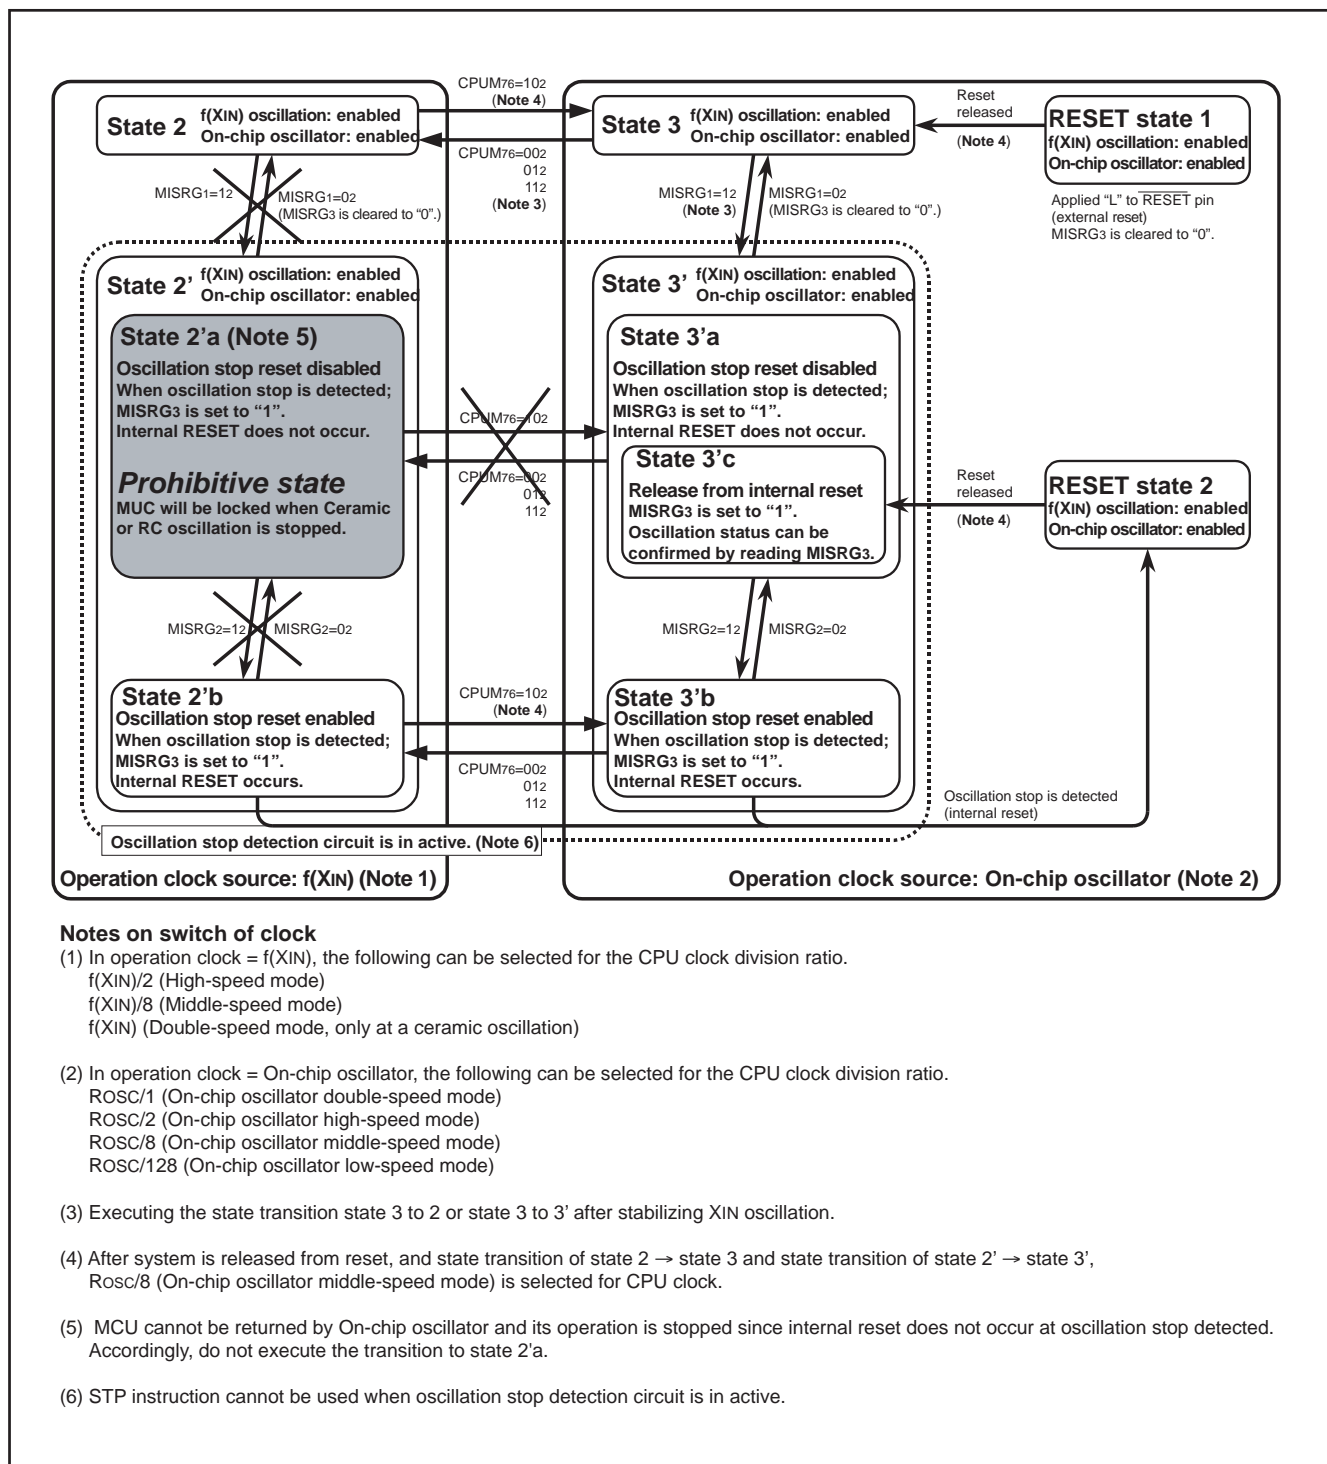

Fig. 80 State transition 2
- Do not execute the transition to "state 2'a" shown in Fig. 80 because in this "state 2'a", MCU is stopped without reset even when XIN oscillation is stopped.
- (1) External reset
- (2) Write "0" data to the ceramic or RC oscillation stop detection function active bit.